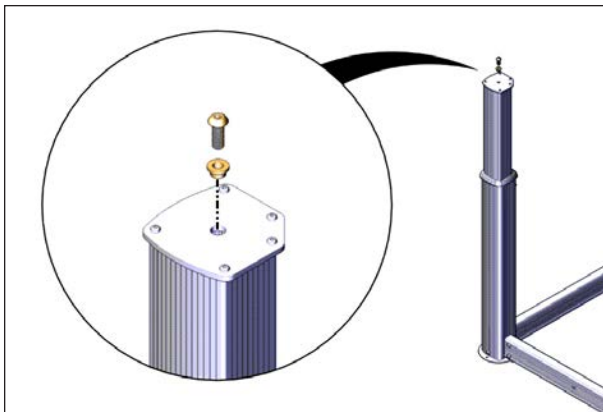

FIGURE 49: FASTEN THE SLEEVE TO THE JACK
22. Install the 3/8" x 1" Allen screw with a 7/32" (5.5 mm) socket previously removed from the jacks, with the smaller diameter of the bushing facing down for each post see Figure 49.
Make sure that the wider part of the bushing is facing up when you screw in the 3/8"-24 x1" Allen bolt see Figure 49.
Ensure the hole in each top plate is aligned with the jack assembly's threads before installing the screw see Figure 49.